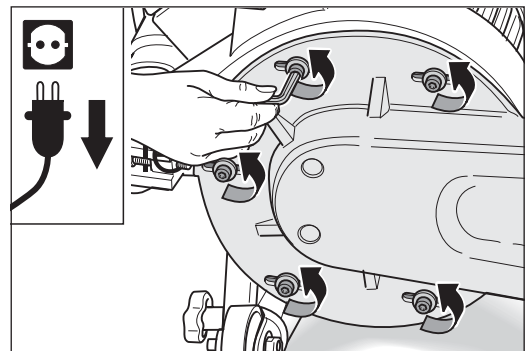

Fig. 64 Undoing the five fastening screws of the attachment.
- 5 Use the proper Allen key to undo all five screws with which the attachment is installed on the fan housing (Fig. 64).